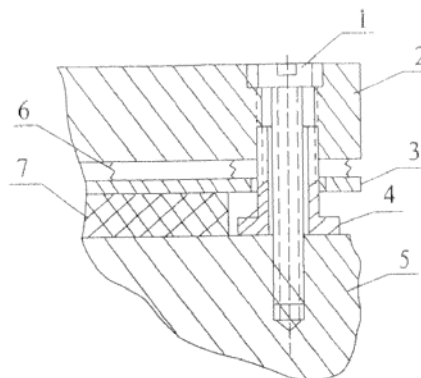

Figure 9: Electromagnetic Brake
- a. The spacing between the armatures and the electromagnetic disk should be within 0.8-1.0 mm (see figure 9).